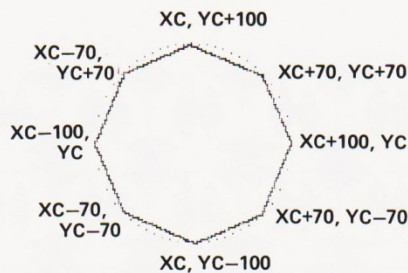

Fig. 19
- PROCOCT2 (2500-2600) The octagon in Figure 19 is outlined.
- PROCC4 (2610-2710) Fills in the octagon in Figure 19.
- 290 - 530 The main program using the octagon of Figure 19.